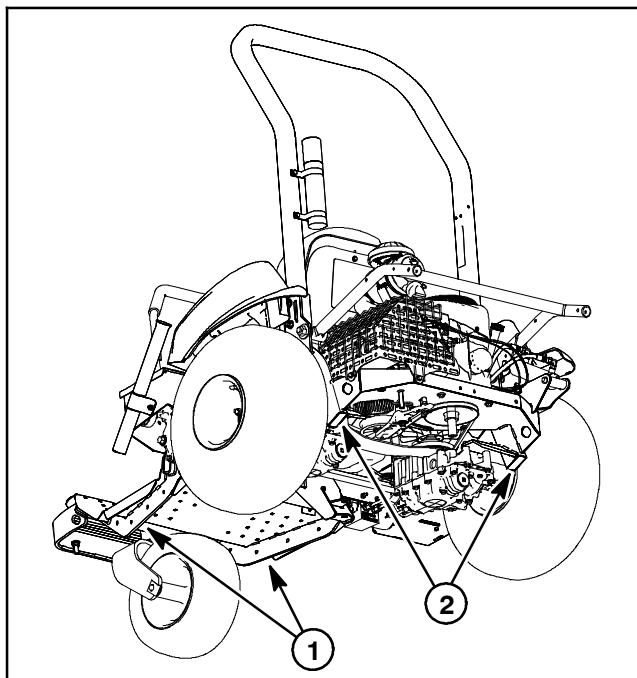

Figure 1
2. Jack the front or rear of the machine at the support points of the frame as shown in Fig. 1. Make sure that jack is positioned securely under frame to reduce the chance that the machine could shift while being raised.